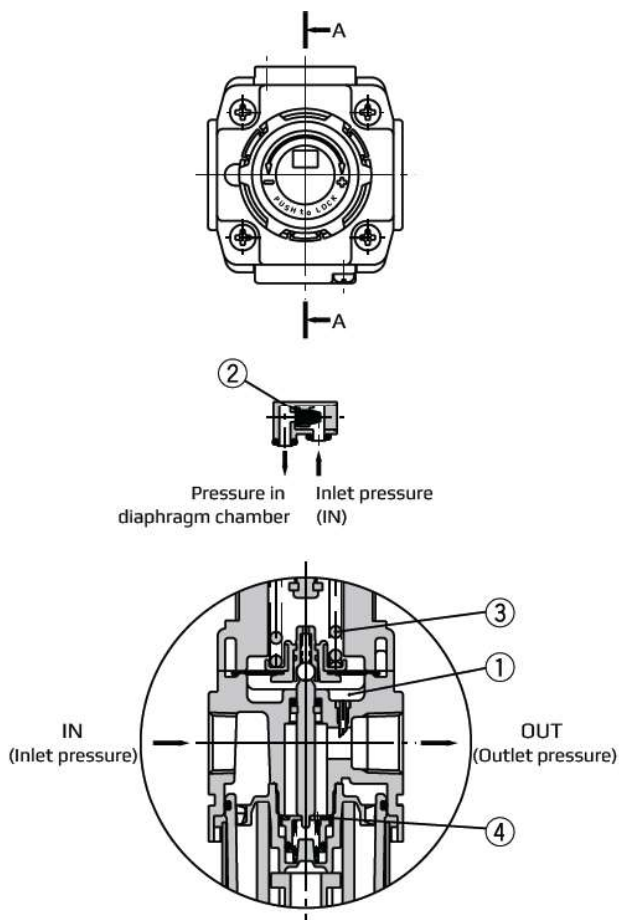

Figure 1 Normal
When the inlet pressure is higher than the regulating pressure, check valve (2) closes and operates as a normal regulator (**Figure 1**). When the inlet pressure is shut off and released, check valve (2) opens and the pressure in the diaphragm chamber (1) is released in the inlet side.